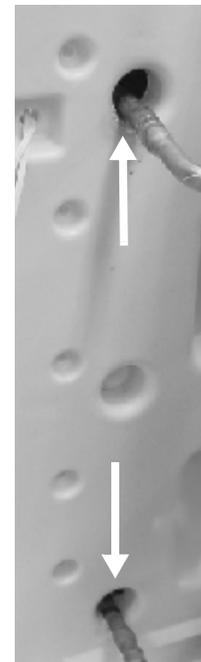

Figure 24.
21. Protecting the water pump and plastic bulkhead from heat, remove the evaporator piping at the bulkhead, leaving the short extension tubes attached (Figure 24).